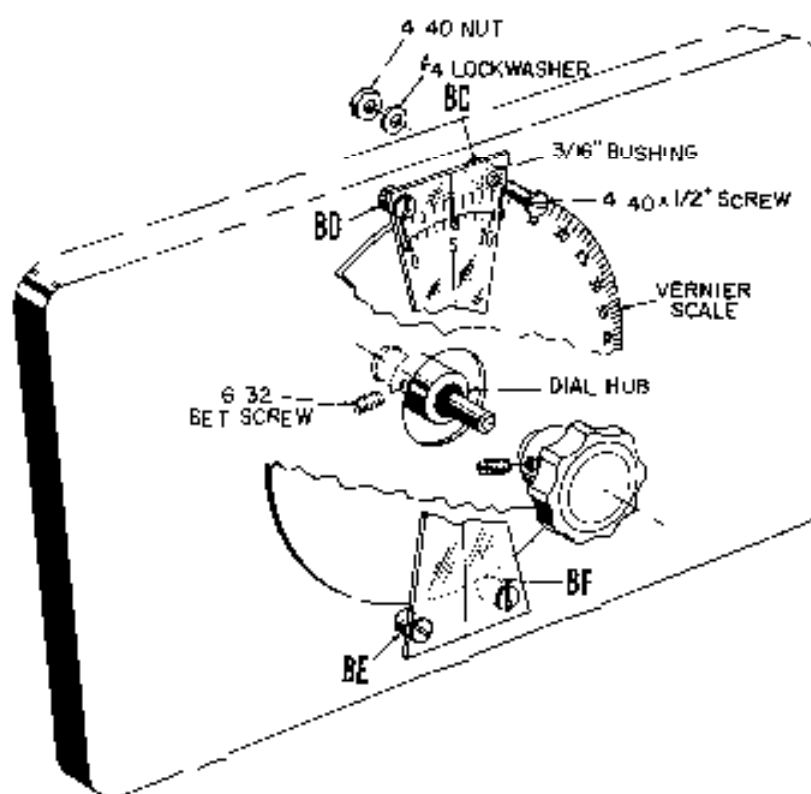

FIGURE 8
- () 20 Insert the #6-32 x 3/16 set screw into the tapped hole in the dial hub. Mount the dial on the variable capacitor shaft. See Figure 8. Do not tighten the set screw at this time.
- () 21 Mount the plastic pointer using four #4-40 x 1/2" screws, 3/16 bushings, #4 lockwashers and #4 nuts at locations BE, BD, BE and BF, with the 0 to 10 vernier at the top of the panel. See Figure 8.
- () 22 Mount the large knob on the variable capacitor shaft and tighten the set screw. Turn the knob counterclockwise until the capacitor is at maximum capacity (fully closed). Rotate the dial by hand until the 100 on the vernier dial scale is aligned with the "0" of the vernier on the plastic pointer. Hold the dial in alignment and tighten the set screw in the hub. See Figure 8. Check operation of the dial to see that it does not rub against either the panel or the plastic pointer.